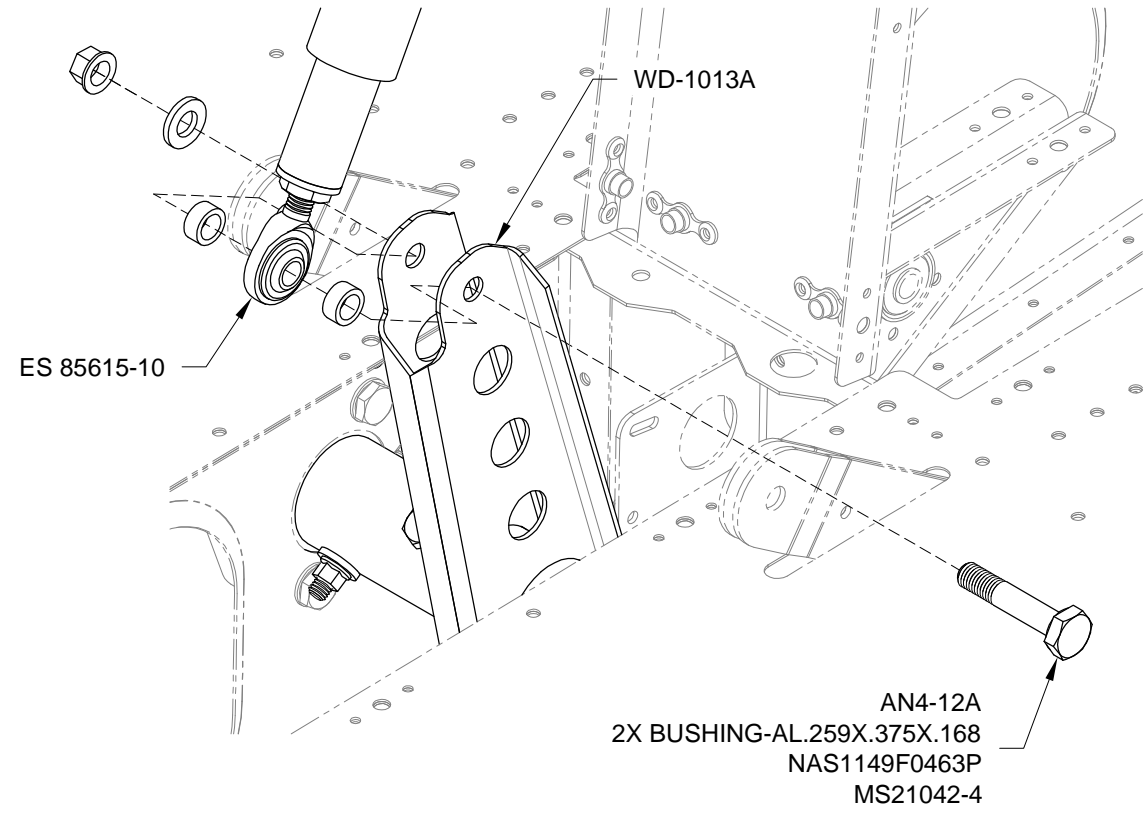

FIGURE 1: LOWER ACTUATOR ATTACHMENT
Step 1: Bolt the ES 85615-10 Linear Actuator to the WD-1013A Flap Crank using the hardware called out in Figure 1.